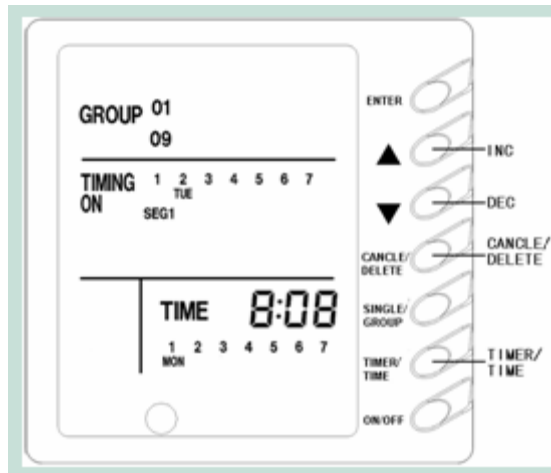

Fig.12.
4) Short-press “**timer/time**” again to begin setting timer period of timer. Press “**dec**” or “**inc**” can select a certain time period in a certain day in a week. Short-press “**cancel/delete**” back to process 3) (fig.12).